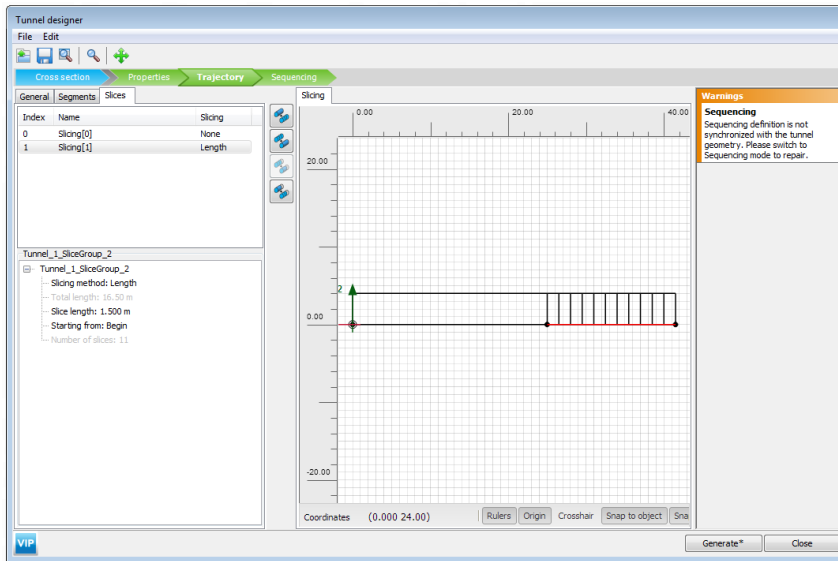

Figure 6.9 Trajectory tabsheet in the Tunnel designer
- Click on the second created segment. In the properties box, select *Length* as the *Slicing method* and set the *Slice length* as 1.5 (Figure 6.9).